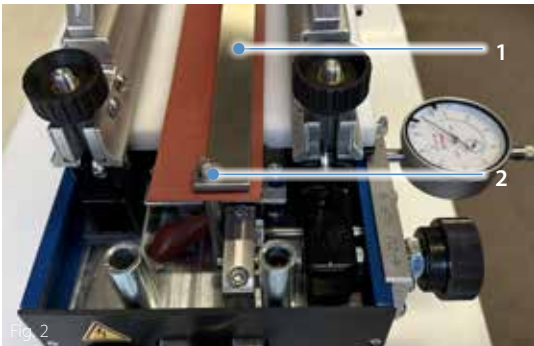
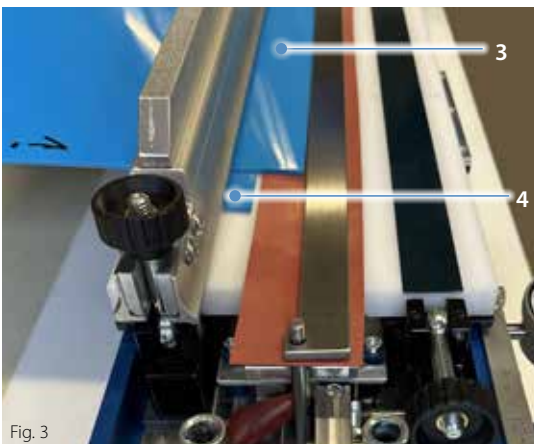

Fig. 2
Fig. 3
- Clean the adjustment aid (1) and put it onto the centering bolts (2). (Fig. 2)
- Clean the first end of the belt (3) and center it over the width of the press. Pre-fix it with the belt holder.
Caution: Shim the belt holder up to the edge of the press with belt material (4) if the belt is much narrower than the nominal width of the press. (Fig. 3)